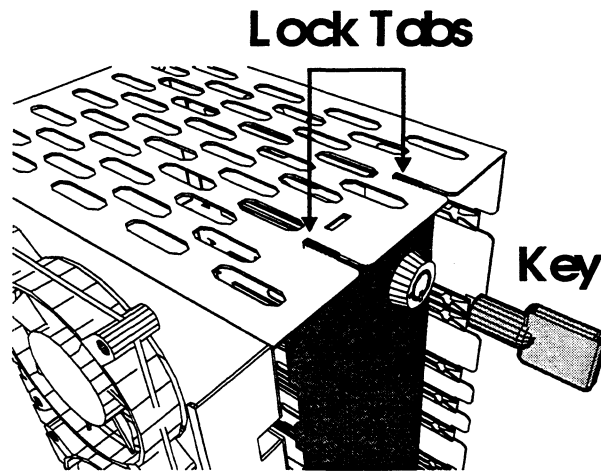

Figure 3-4 Unlocking the drive
3. Insert the key into the drive lock. Push in and turn clockwise to unlock as shown in Figure 3-4.